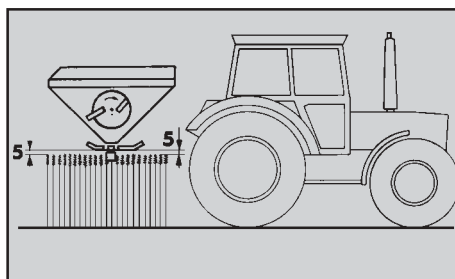

Fig. 7.4
- Set the mounting height of the spreader with the aid of the tractor's three-point hydraulic that high that the distance between the top of the grain and the spreading discs is **approx. 5 cm**. If necessary insert the lower link pins into the lower hole of the lower link console (Fig. 7.4).